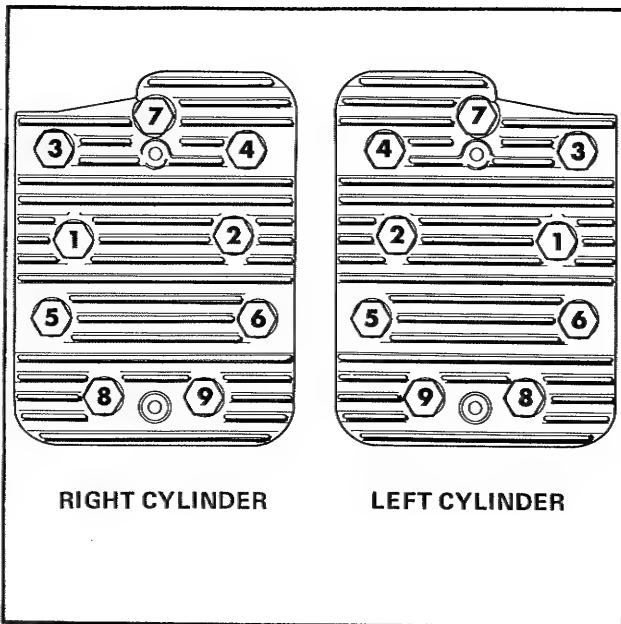

Figure 39. Cylinder head bolt tightening sequence.
2. Remove the air shrouds (D).
3. See figure 39. Use a 1/2" socket wrench to remove the cylinder head bolts. Turn them counter-clockwise to remove them.
6. Place one head in position on the cylinder block and install the head bolts, placing the longer bolts through the holes marked 1, 2, 3, 4 and 7 in figure 39.
7. A torque wrench should be used to tighten the head bolts. This should be done when the engine is at room temperature. Use the tightening sequence shown in figure 39. Tighten number 1 bolt to 5 foot pounds torque, then number 2, etc. After all bolts are tightened to 5 foot pounds, repeat the sequence, tightening each bolt to 10 foot pounds. Repeat the sequence increasing 5 foot pounds each time until each bolt is tightened 29-31 foot pounds. Install the other head and head gasket and tighten the head bolts as outlined in steps 6 and 7.